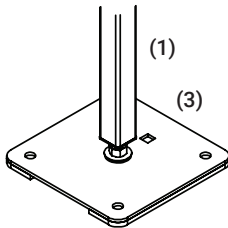

Fig. 2
2. Insert the feet with bolts attached into the adapters at the bottom of the legs (1), as shown in Figure 2. Use the nuts to adjust the height.